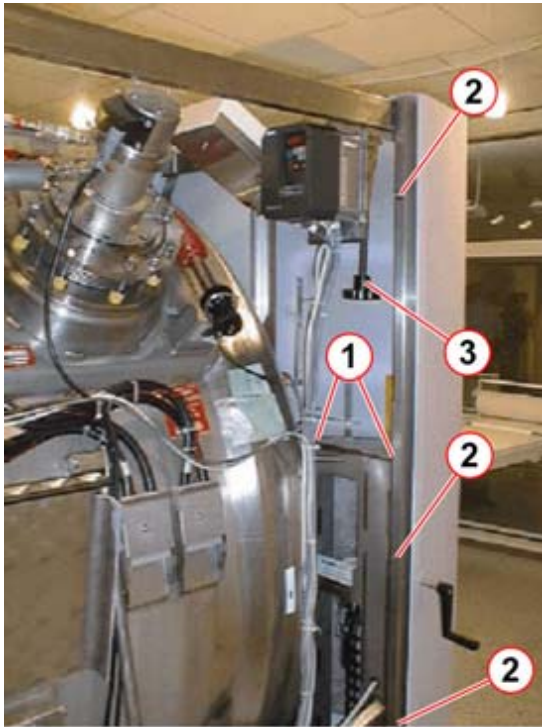

Fig. 3: Column cover mount
- Attach the three Allen screws (2/Fig. 3 / p. 12) of the front cover.
- Attach both cover plates with the two screws (1/ Fig. 3 / p. 12) for the table support arm slots.